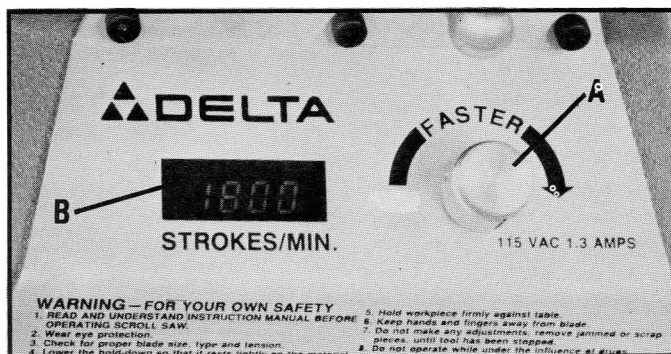

Fig. 13
Your scroll saw can be operated at speeds of 50 to 2000 strokes per minute. The strokes per minute is indicated by the digital readout shown at (B) Fig. 13. To increase the strokes per minute, rotate switch (A) clockwise and to decrease the strokes per minute, rotate switch (A) counterclockwise.